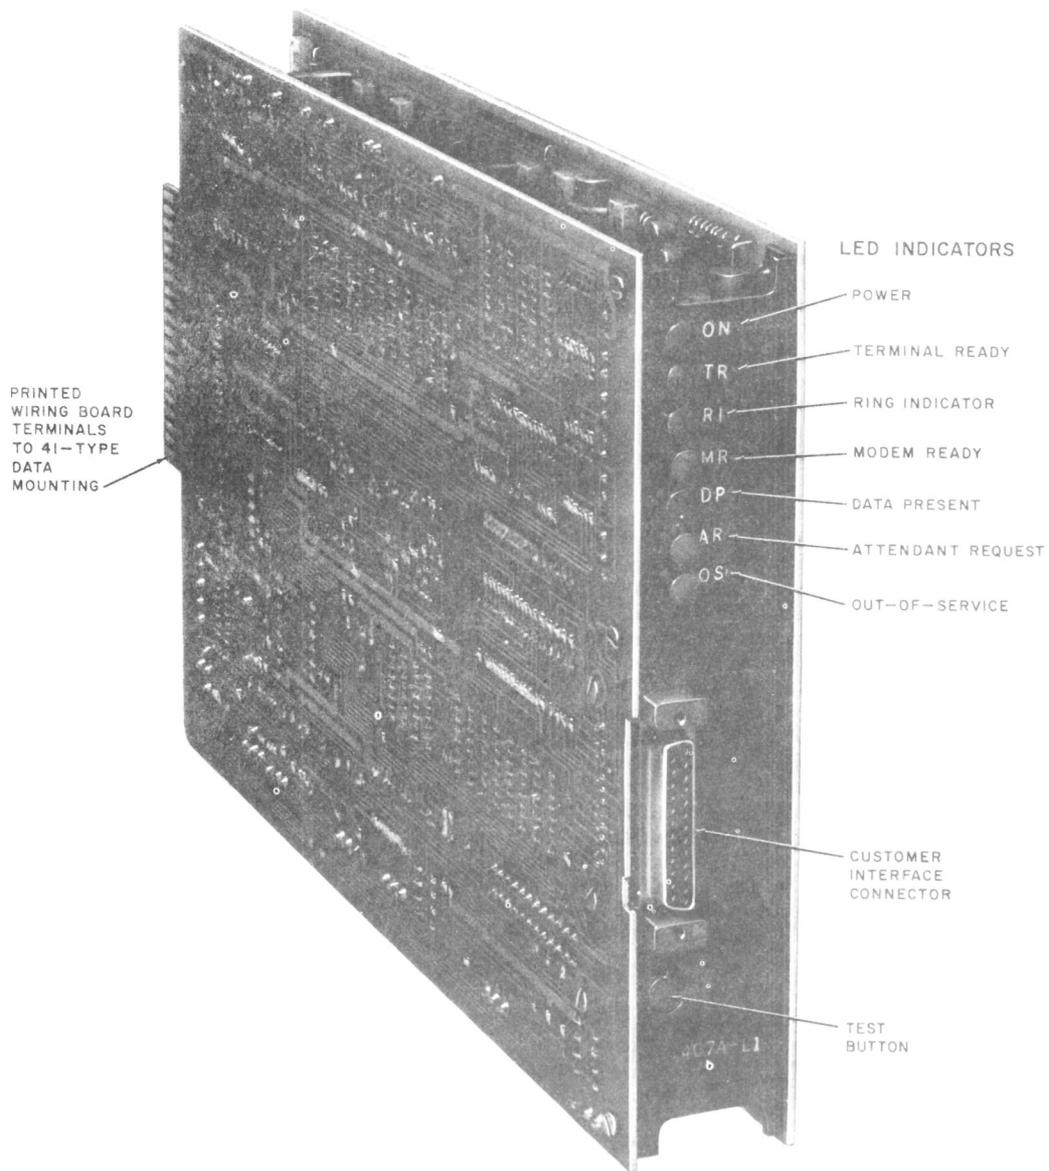

Fig. 2—Data Set 407A-L1 or -L1A
1.07 Data set 407-type is a low-speed, parallel receiver that detects two-out-of-eight multifrequency signals generated by a Touch-Tone-type telephone. The data set receives data from either the 2-wire switched telecommunications network or an unconditioned private line facility. The data set provides a two-way voice channel as well as full-time remote control. The remote control feature enables the data set to receive Touch-Tone signals in the presence of outgoing voice or tone answer-back. The data set has the capability of generating a 2025-Hz answer-back tone. Status light emitting diodes (LEDs), as shown in Fig. 2 and 3, are provided on the front panel of DS 407-type to indicate the state of various functions and customer interface signals.
2.02 Data set 407A-L1 (Fig. 2) consists of two printed wiring circuit packs (CPs) (JU1 and JU2) mounted together in sandwich fashion. A KS-19087-type 25-pin connector is located on the front of the data set and provides the interface with customer-provided terminal equipment. Printed CP terminals are also located on the rear of the data set which enables the data set to plug into the 41-type data mounting. The data set is 8 inches high, 12.1 inches deep, 1.45 inches wide, and weighs approximately 2-3/4 pounds. The data sets require power sources of +12 volts, -12 volts, and +5 volts. DS 407A-L1 can be updated to DS 407A-L1A by factory modification of JU1 per X-18107.
2.03 Data set 407A-L1A (Fig. 2) consists of two printed wiring CPs (JU1B and JU2) similar to DS 407A-L1. Dimensionally, DS 407A-L1A is the same as DS 407A-L1, and the power source
3.07 Seven status LEDs are provided on the front of data sets 407A-L1 and -L1A as shown in Fig. 2. The LED names and functions are defined as follows:
- The terminal ready (TR) LED indicates the status of the data terminal ready signal from the customer interface.
- The ring indicator (RI) LED indicates that ringing is being applied to the data set.
- The modem ready (MR) LED indicates the status of data set ready signal to the customer interface. This LED comes ON 3 seconds after ringing is tripped, if the station is in the Data mode and TR is ON. Once it comes ON, it stays ON until termination of the call, whether the line is in the Talk or the Data mode.
- The data present (DP) LED indicates the status of the data present signal to the customer interface. This signal (DP LED ON) indicates that the data set is receiving data.
- The attendant request (AR) LED indicates the status of attendant request signal from the customer interface.